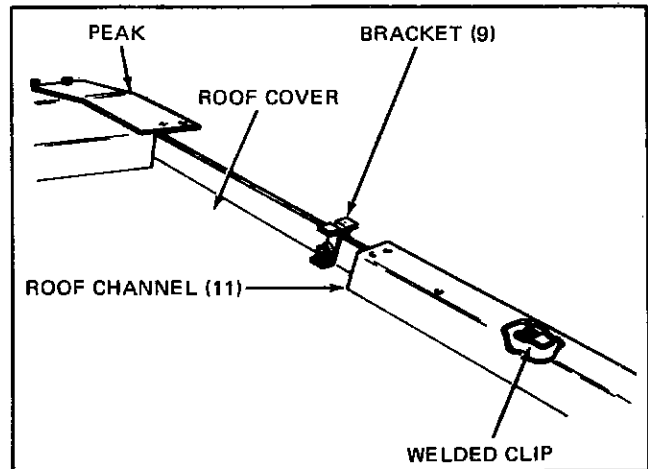

Figure 29. Roof Channel Installation – Single Aisle Layout
9. Fasten roof covers together using bracket (9) at positions "E" (two per joint) See view "A".
10. Install a trim angle (10) at each end of aisle.
11. See Figure 29. Set roof channels (11) over roof cover joints. Slide the channel toward the roof peak until the clip inside the channel engages the bracket (9).
12. Set channel-shaped covers (10) over the joints of roof decks and slide up the covers so the clips on the inner surface (See Figure 29) engage the brackets (12).
13. Bolt hoods (11) in place.
15. Drill cable cover (15) to suit conduit. Clamp the cover in place with angle (16).